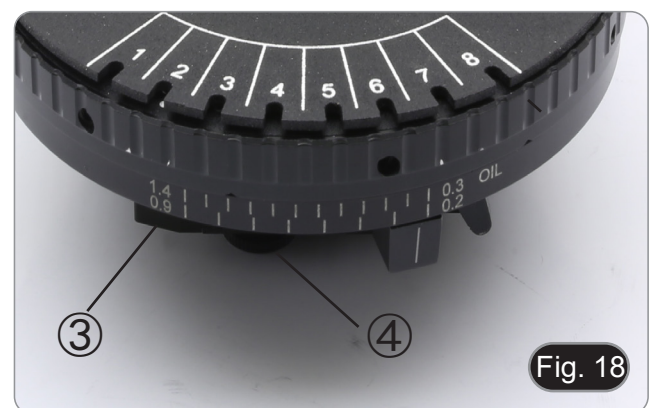

Fig. 18
3. Push the lever of the polarizer ③ to insert it in the optical path. (Fig. 18)
5. Loosen the polarizer rotation fixing screw ④. (Fig. 18)